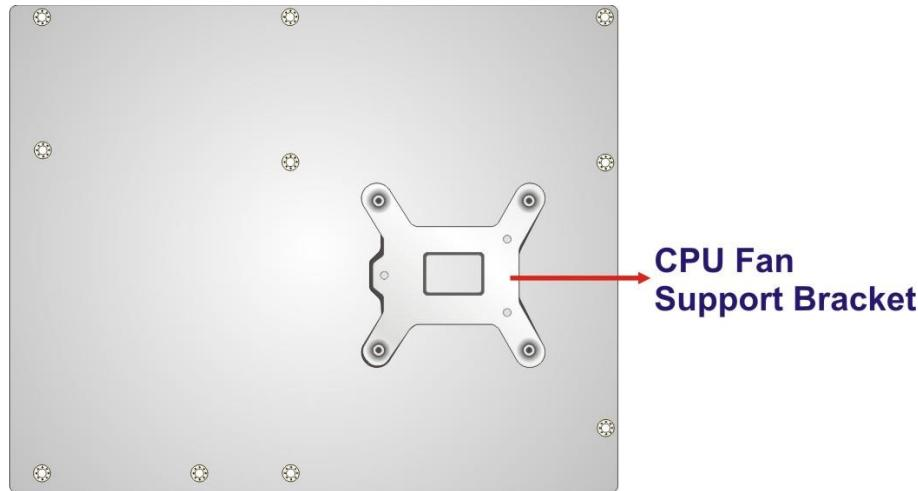

Figure 3-7: Cooling Kit Support Bracket
Step 1: A cooling kit bracket is pre-installed on the rear of the motherboard. See **Figure 3-7.**